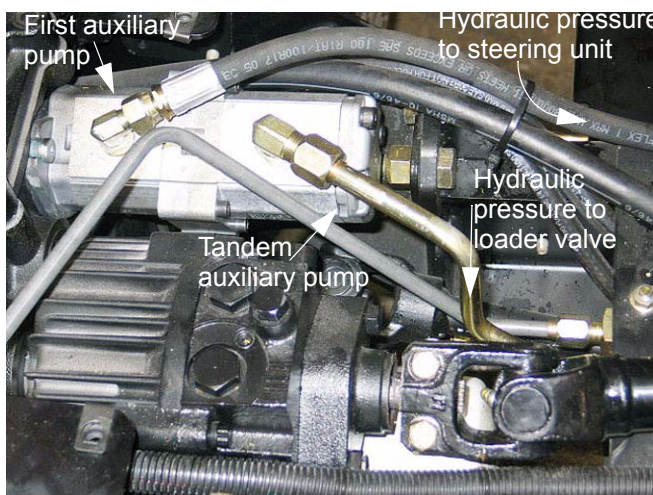

Figure 6.3
- 6.3. Current production Domestic Series 7000 tractors are fitted with a tandem auxiliary pump to power attachments such as a back-hoe or front-end loader. See Figure 6.3.